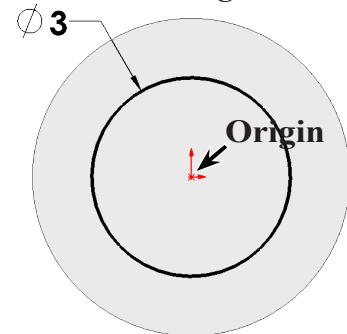

**Fig. 5**
Step 1. Click **Right**  in the Feature Manager and click **Sketch**  on the context toolbar, **Fig. 5**.